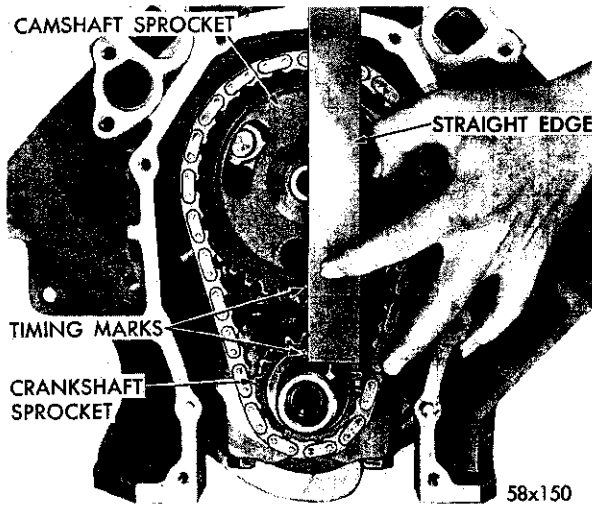

Fig. 21—Inspecting Alignment of Timing Marks Using a Straight Edge
- (6) Use a straight edge to measure alignment of the timing marks (Fig. 21).
- (7) Install the washer and camshaft sprocket bolt and tighten to 35 foot-pounds torque.